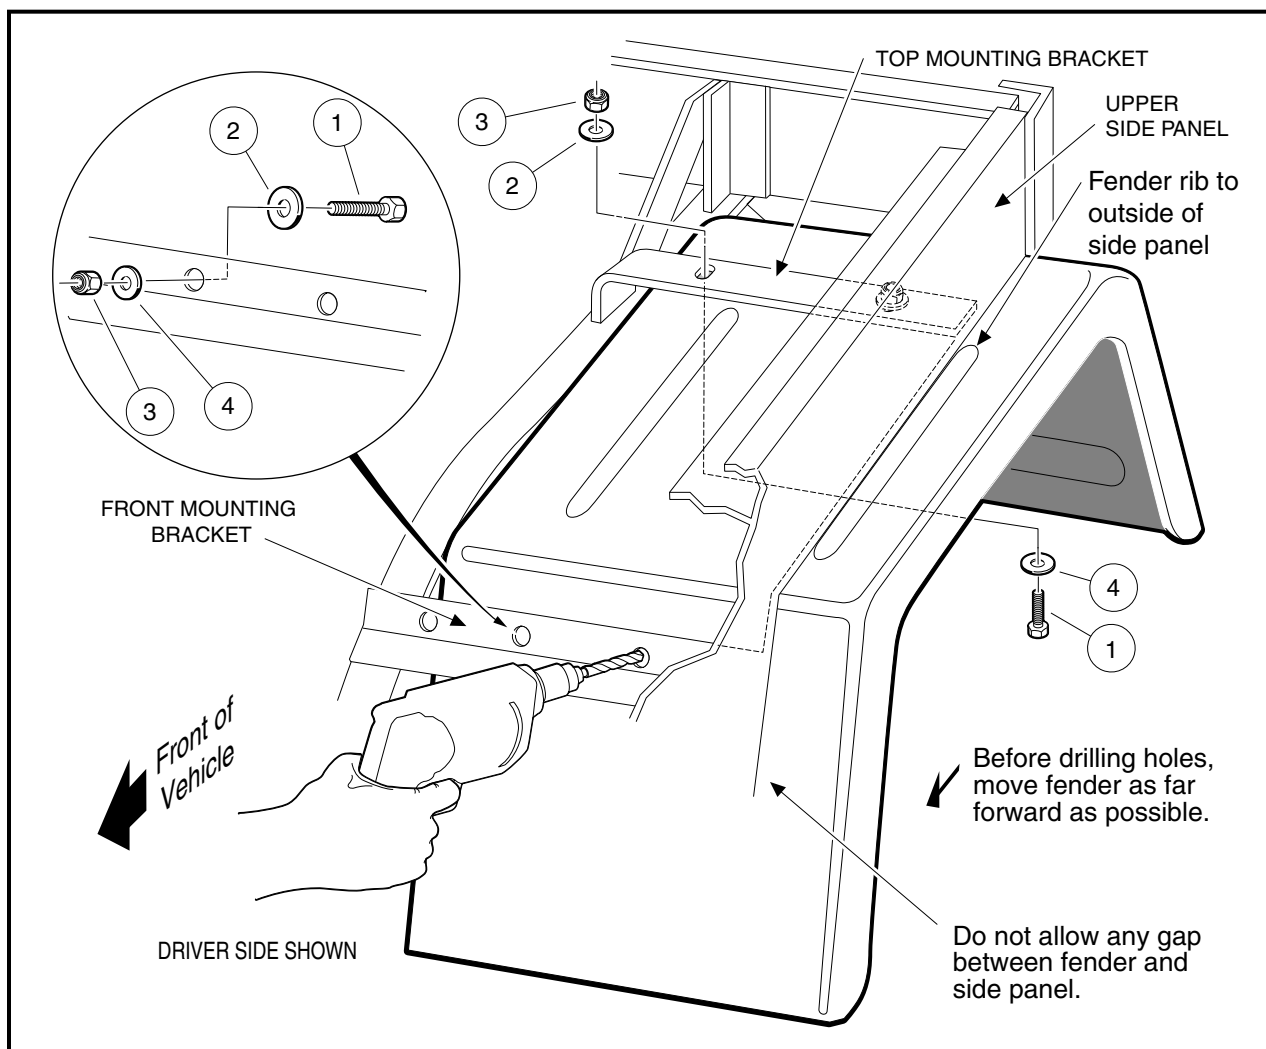

Figure 2 Drill Additional Mounting Holes
4. Make sure fender is correctly aligned in the vehicle by placing the outer fender rib to the outside of the upper side panel, and as far forward as possible, leaving no gap between the fender and side panel (**Figure 2**).
5. Drill three 5/16 inch holes through the fender: Two through the outside holes in the front mounting bracket, and one through the slotted hole in the top mounting bracket (**Figure 2**).
6. Loosely install bolts (1), large flat washers (2), small flat washers (4), and lock nuts (3) in the front mounting bracket holes.
7. Install bolt (1), small flat washer (4), large flat washer (2) and lock nut (3) in the top mounting bracket hole as shown (**Figure 2**).